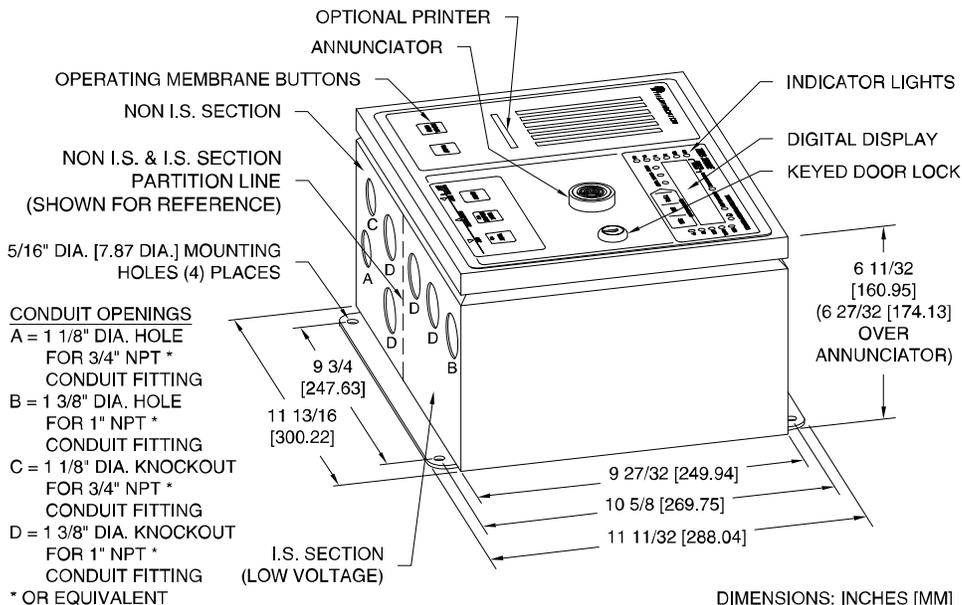

Figure 1-2 - TMS3000E Console Outline
Figure 1-2 illustrates the standard TMS3000E outline and dimensions. All standard configurations are equipped with a 4 Mag. Probe/8 Leak Sensor Card, two (2) RS-232 Serial Port, RS-485 Serial Port, 10/100 Base-T Network Interface, and NEMA 12 enclosure. There are six (6) basic configurations available:
The standard TMS3000E console enclosure is NEMA 12-rated for indoor installation. An optional NEMA 4/4X enclosure is available for outdoor installation. Confirm enclosure rating on the approval label located on the exterior, left-hand side of the enclosure before installation outdoors. See Figure 1-2 below for mounting flange locations and dimensions.
Select a flat wall surface and prepare it with four wall-mounting inserts to accept up to 1/4-inch size bolts. Allow sufficient room for door to open and for conduit runs to enter **ONLY THE CONSOLE BOTTOM**. See Figure 1-2 for console dimensions.